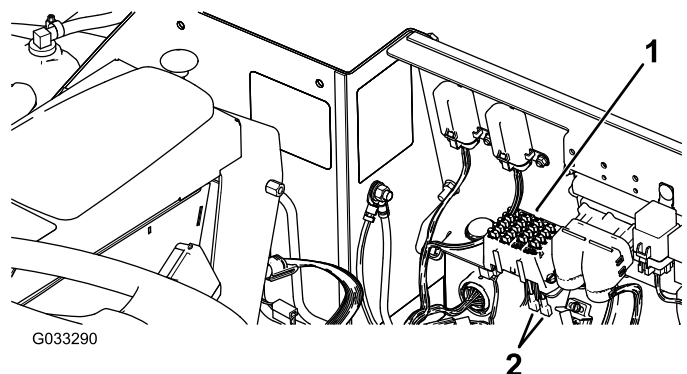
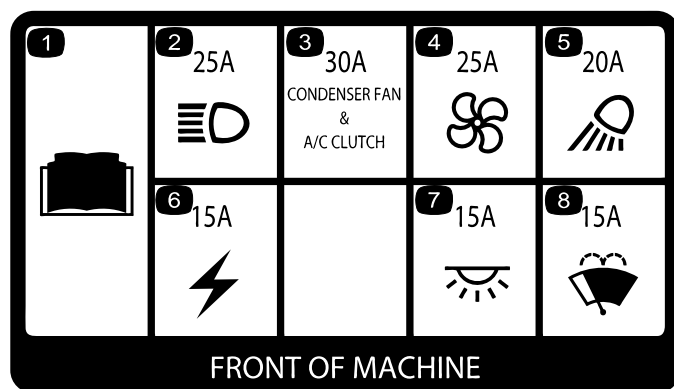
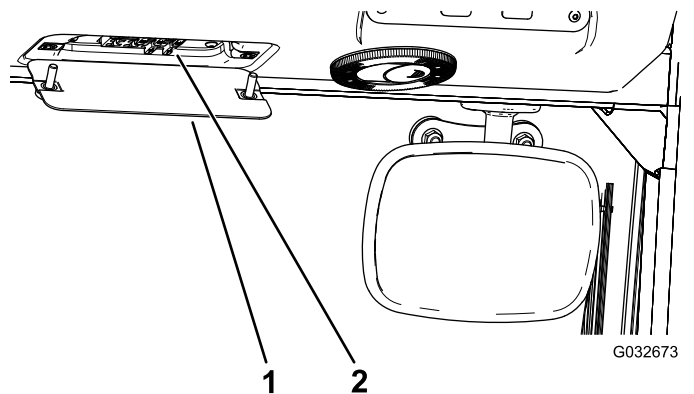

Figure 94
Figure 95
Figure 96
**Important:** If you are installing an auxiliary accessory to the machine, the only approved locations to source power are at the traction-unit fuse block (Figure 94) or the cab-fuse block (Figure 96). A maximum of 10 A is available from either location. Contact your local Toro distributor for assistance.
The cab fuses (Figure 95) are located in the fuse box on the cab headliner (Figure 96).